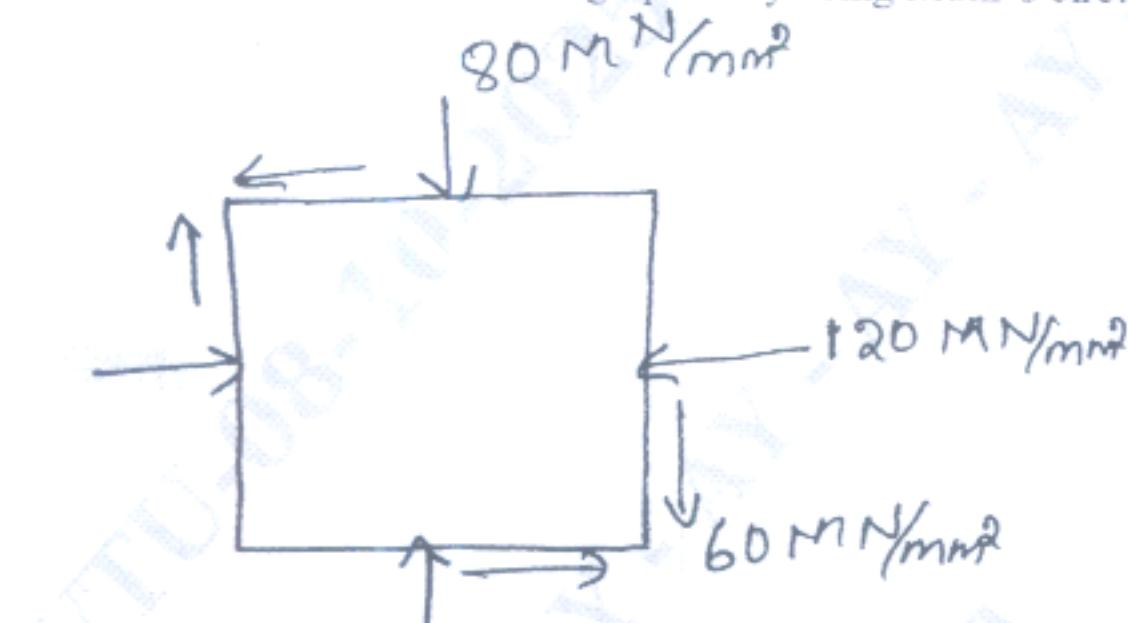

Fig Q4
Q.4 The state of stress on a 2D body is shown in the Fig Q4(a). Determine principal planes, principal stresses, maximum shear stress and their planes analytically and validate the answers graphically using Mohr's circle.